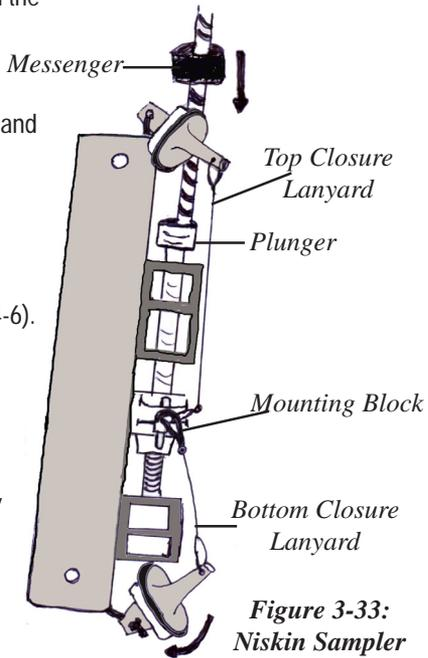
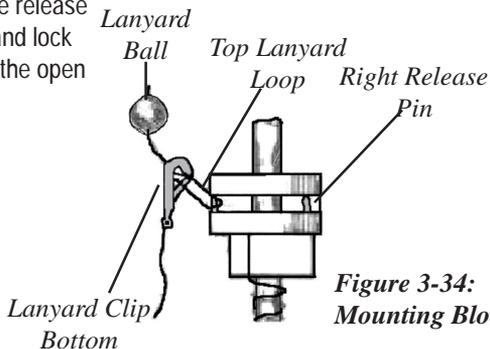

Figure 3-33:
Figure 3-34:
The Freshwater and Marine Team have monitoring locations where the water is too deep to safely enter the waterbody. Some groups collect ocean samples from boats or off piers, and other groups collect samples in deep lakes and rivers, which requires a special sampling device called a Niskin sampler (Figure 3-32). The Niskin sampler is attached to a rope or cable and is lowered into the waterbody being sampled. This device is equipped with a messenger (weight) that triggers the Niskin sampler to close at a specific depth. Figure 3-33 shows a vertical Niskin Sampler, which is used for lakes, estuaries, and the ocean. In deep streams and rivers a horizontal version of the Niskin sampler is used to capture flow coming downstream.
1. Pull the **Niskin Sampler** from the field kit (Figure 3-33).
4. Press down on the plunger to open the "Release Pins" (Figure 3-34).
5. Place the "Top Lanyard Loop" under the left "Release Pin" (Figure 3-34). Once the top lanyard loop is securely around the release pin let go of the plunger. The release pin should close and lock the top closure in the open position.
6. Attach the “Bottom Lanyard Clip” onto the top closure lanyard above the top lanyard loop and below the “Lanyard Ball” (Figure 3-34). This should lock the bottom closure into the open position (Figure 3-33).